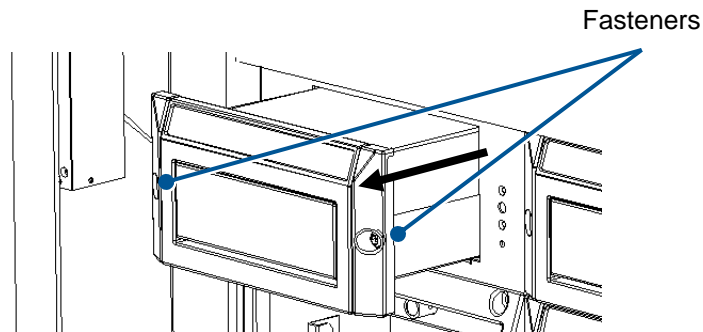

Figure 149: Fasteners on the Incubator Modules or Detection Module
1. Loosen the fastener Figure 149) one-fourth ($\frac{1}{4}$) of a turn using a 4 mm Allen wrench.